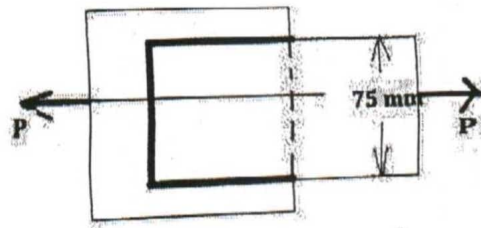

Fig. 2
c) A plate 75 mm wide and 12.5 mm thick is joined with another plate by single transverse weld and a double parallel fillet weld as shown in fig.2 the maximum tensile and shear stresses are 70 MPa and 56 MPa respectively. Find the length of each parallel fillet weld, if the joint is subjected to static loading.